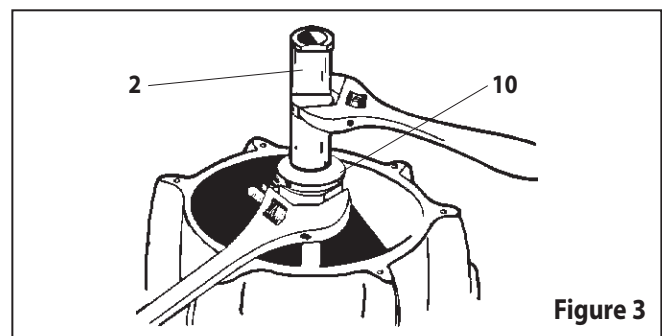

Figure 3
10. Disassemble the (2) valve piston from the (10) piston adapter (see figure 3).
11. Remove (2) valve piston.
12. Pull the (10) piston adapter upward and grasp the (11) extension rod below the (10) adapter. Push the (10) piston adapter down on the (11) extension rod. Remove the (37) washer and (11) extension rod.